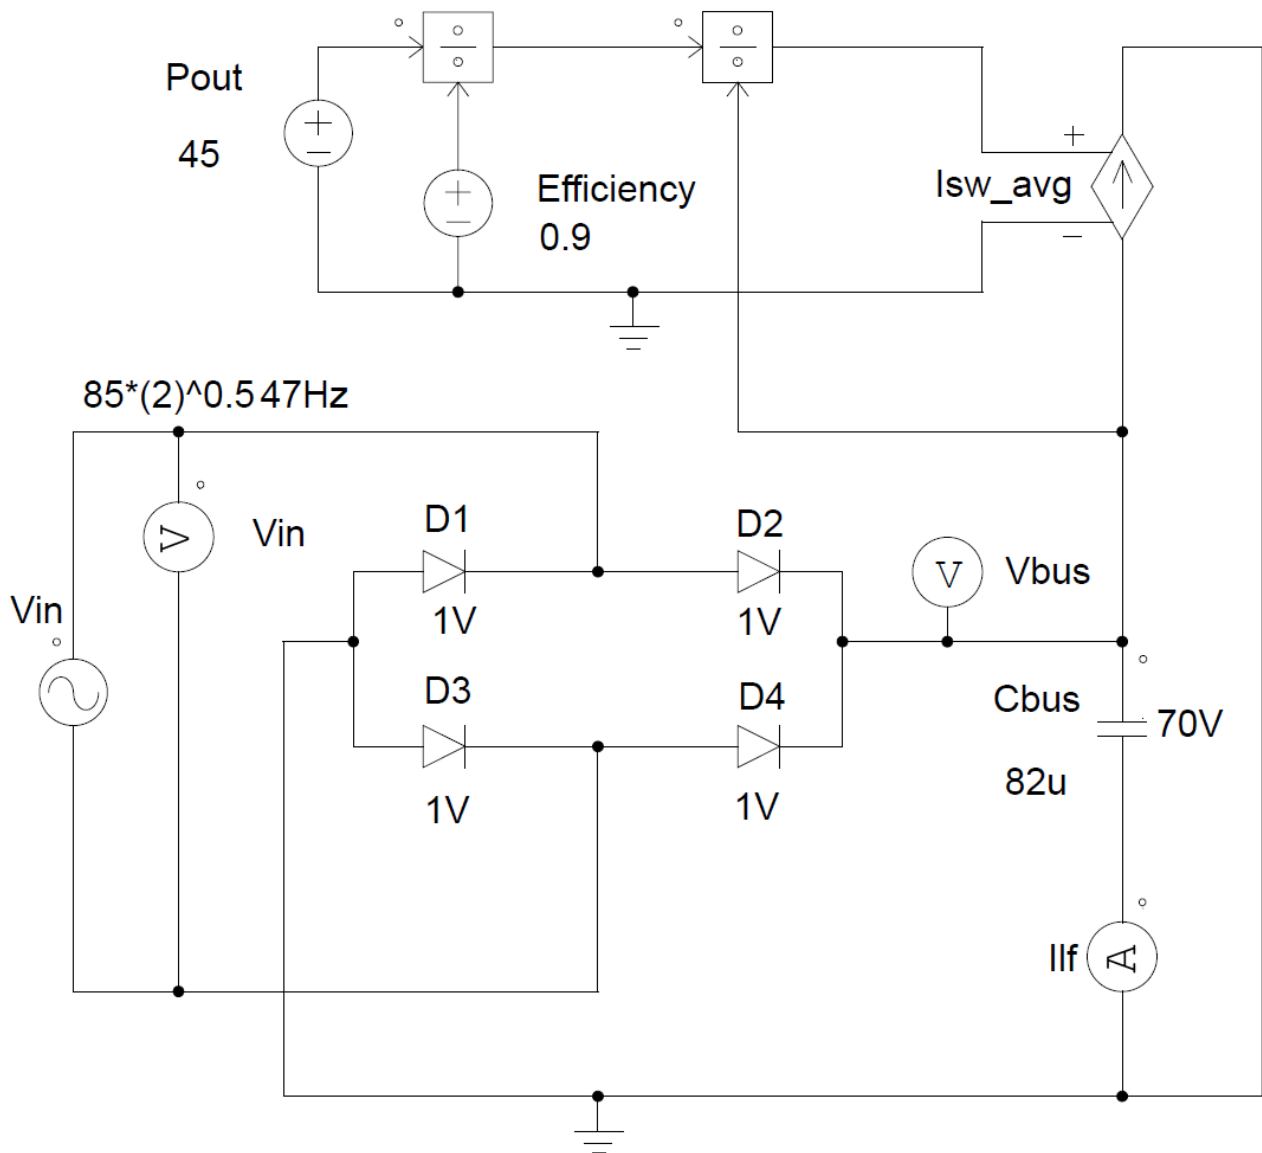

Figure 2. Cbus Low Frequency Current (Ilf) Simulation Model
4. Use your favorite circuit simulator and the model presented in figure 2 to extract the maximum C_{bus} low frequency current (I_{lf}), which occurs at the maximum output power and minimum input voltage. In order to avoid division by zero at divider on C_{bus} should be set to a positive voltage (say 70-V) and the simulation run until the circuit reaches steady-state.